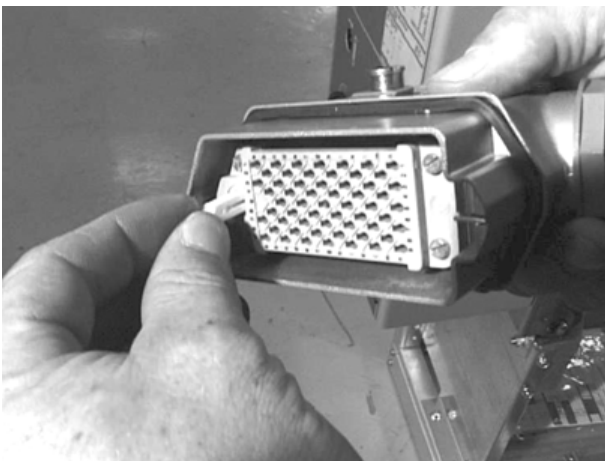
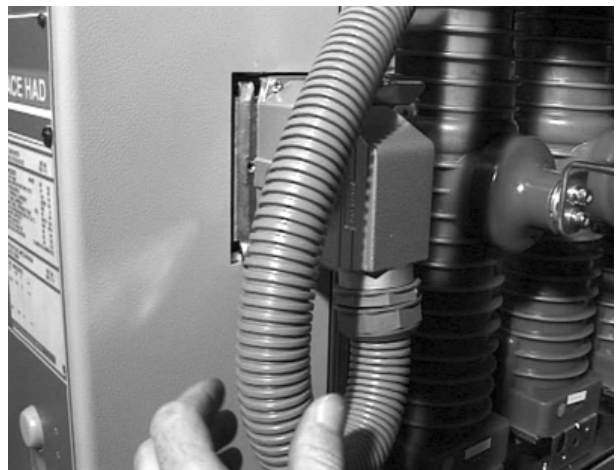

Figure 5.11
Figure 5.12
- 6) After mounting the circuit-breaker, put the white control pin into the cable terminal (Figure 5.11) and connect the terminal to the circuit-breaker. Notice the correct position of the flexible tube (HD4/S).(Figure 5.12)